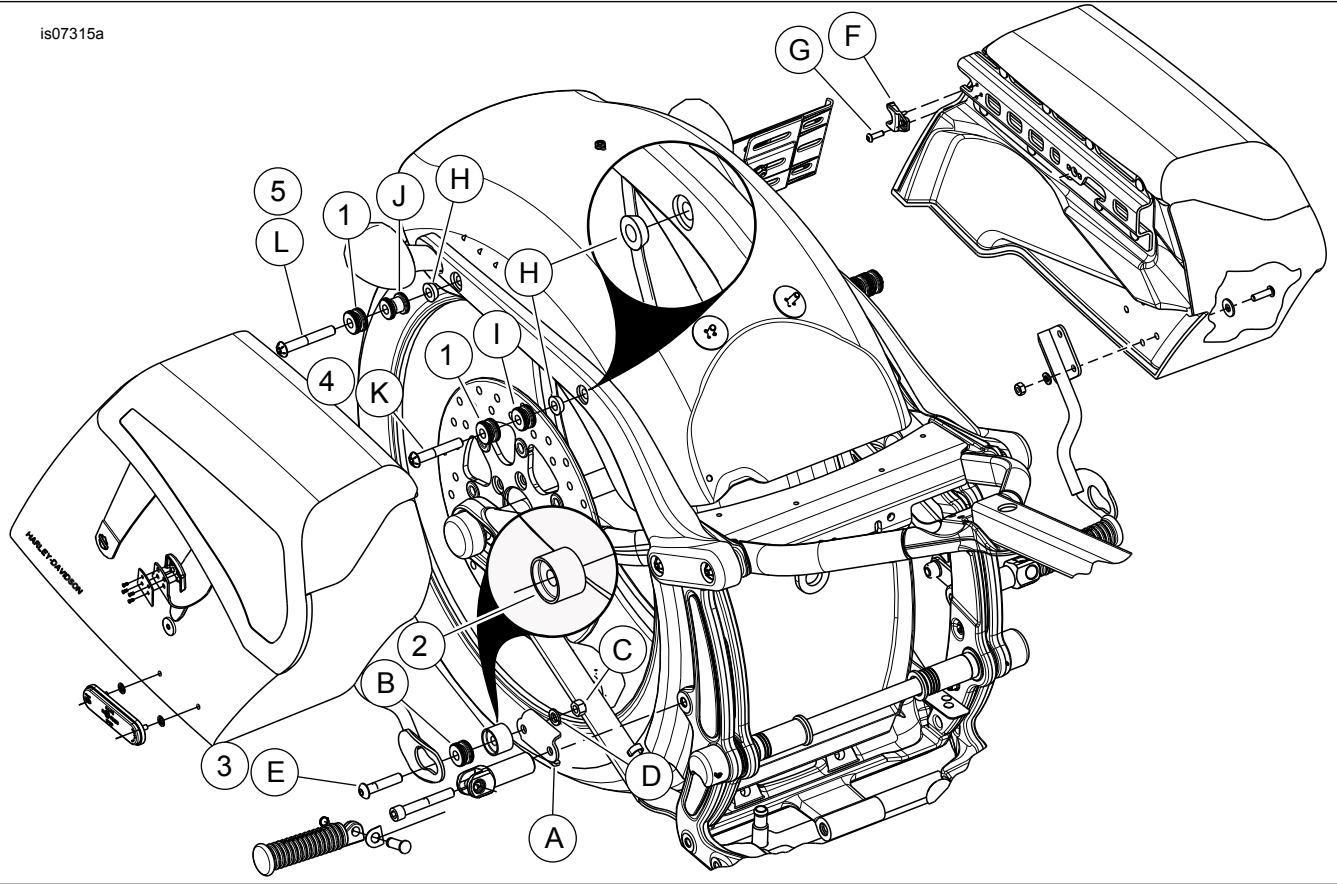

Figure 1. Service Parts: Detachable Saddlebag Docking Point Kit (Part No. 52300243)
See Figure 1 and Table 1.
2. See Figure 1. Remove screws (K and L) docking points (J and I) and conical docking spacers (H). Make note of docking point locations and conical spacer orientation.
3. Remove nut (C), split washer (D), mini docking point (B) and screw (E) from bracket (A). Leave bracket (A) installed on the motorcycle.
4. Remove and discard the docking spacer (F) and screw (G).
1. See Figure 1. Replace screws (K and L) with screws (4 and 5) from this kit.
2. Replace screw (E) with screw (3) from this kit.
3. Remove and discard the docking spacer (F) and screw (G) from the saddlebag kit.
1. See Figure 1. Install screw (4), mini docking point (1), mini docking point (I) and conical spacer (H) into the forward strut mounting location. Tighten to 28.5–36.6 N·m (21–27 ft-lbs).
2. Install screw (5), mini docking point (1), wide docking point (J) and conical spacer (H) into the rear strut mounting location. Tighten to 28.5–36.6 N·m (21–27 ft-lbs).
3. Install screw (3), mini docking point (B) and spacer (2) to the 3rd-point mount bracket (A). Secure with lockwasher (D) and nut (C). Tighten to 28.5–36.6 N·m (21–27 ft-lbs).